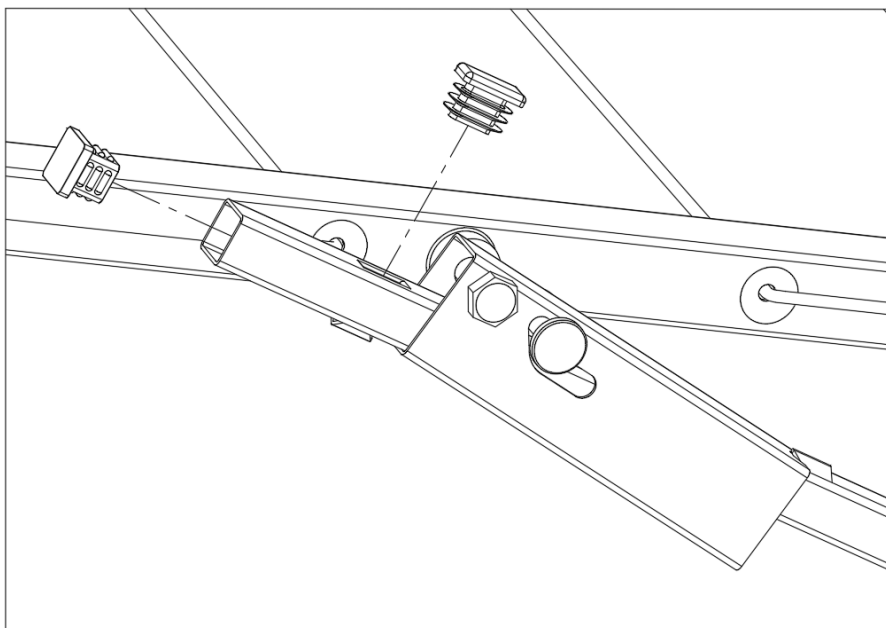

Fig 8. Plastic plugs to front and top of stay.
15. Install plastic plugs to back of the arms and to the top and front end of stays. (Figs 8 and 9)